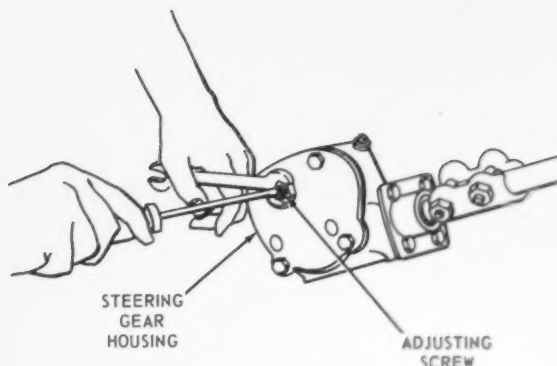

Fig. 13—Adjusting Steering Gear Backlash
3. Loosen the jam nut on the steering gear adjusting screw (Fig. 13).